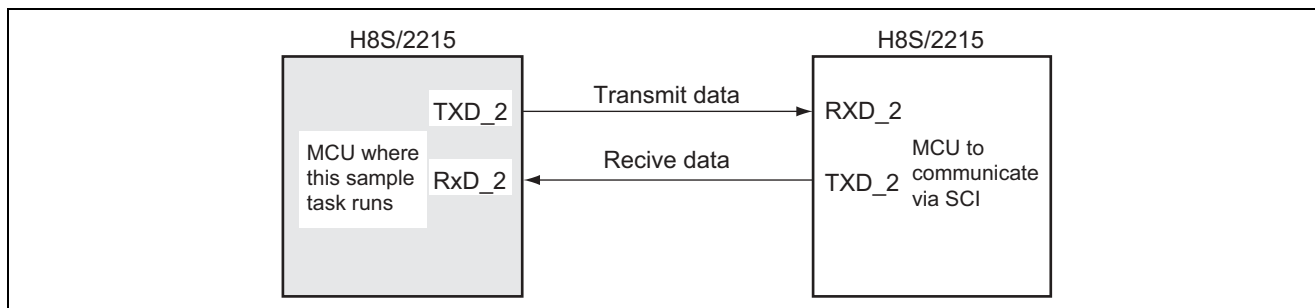

Figure 1 Simultaneous Serial Data Transmission/Reception in Asynchronous Mode
1. Eight characters (bytes) of data are simultaneously transmitted and received using the serial data transfer function in asynchronous mode as shown in figure 1.